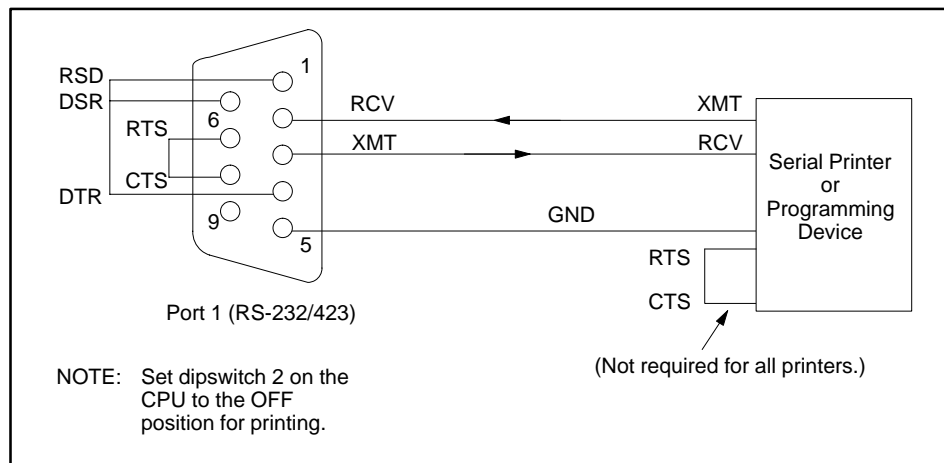

Figure 6-23 545/555 XON/XOFF Printer Handshaking
- XON/XOFF printer handshaking; see Figure 6-23.